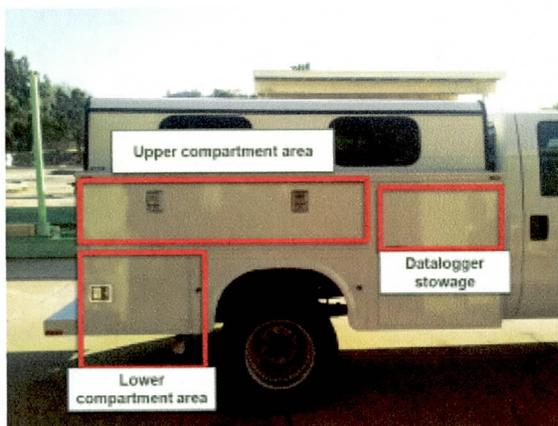

Figure 1 – Compartment layout thermocouple placement
Temperatures were measured using thermocouples (Type K, 24 gauge wire) affixed in 15 locations. 10 of the 15 thermocouples measured surface temperatures throughout the lower and upper compartments (interior and exterior). Two thermocouples measured exhaust system temperature (exhaust gas and pipe surface), two measured ambient temperature inside the lower and upper compartments, and one measured ambient temperature behind the truck body. Detailed thermocouple locations are shown in Table 1 and Figures 1–3. Temperature data were recorded at (5) second intervals using a Campbell Scientific CR1000 datalogger1 and AM2T thermocouple multiplexer stored in the upper forward passenger side bin.